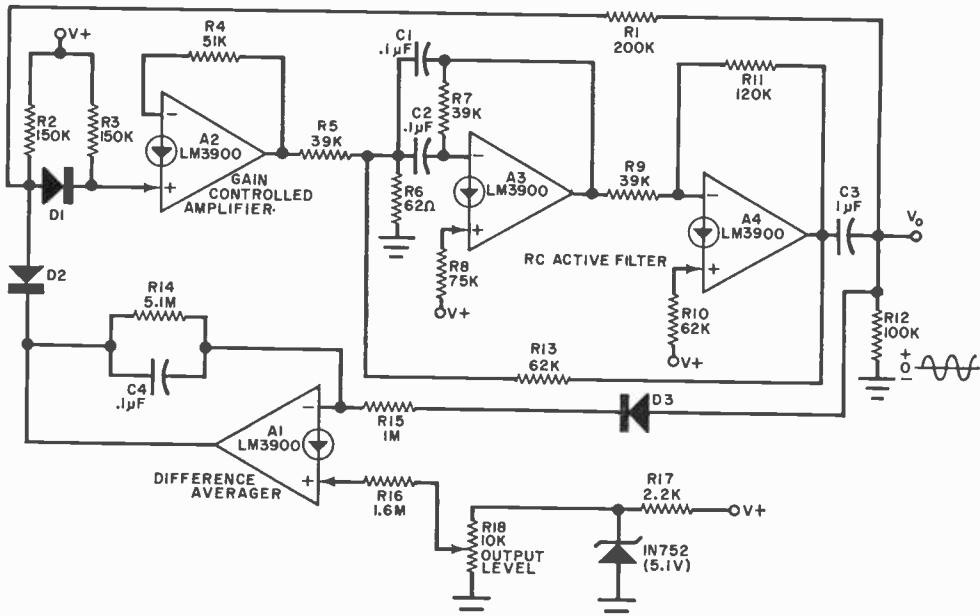

Fig. 9. This low-distortion, amplitude-regulated, sine wave oscillator uses four CDA sections.
**Oscillators.** Like conventional op amps, CDA's are very useful in oscillator circuits for generating sinusoidal, pulse, and rectangular waveforms. Taking full advantage of all four amplifiers of a single CDA package and a combination of different circuit sections, National Semiconductor's sine wave oscillator (Fig. 9) produces a 1-kHz output with a total harmonic distortion of 0.1%, regulated in amplitude.